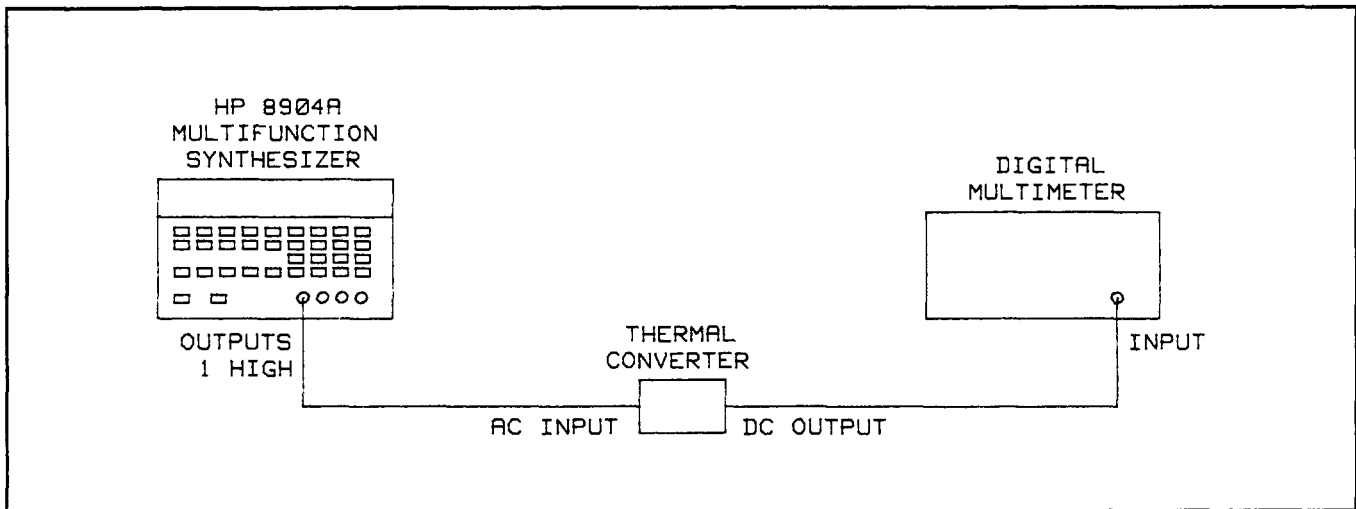

Figure 5-3. *Sine X/X Compensation Adjustment Test Setup*
4. Connect the ac input of the thermal converter to the Multifunction Synthesizer's OUTPUTS 1 HIGH output for the A3 Output Assembly or OUTPUTS 2 HIGH for the A10 Output Assembly. Connect the dc output of the thermal converter to the input of the voltmeter. Refer to Figure 5-3.